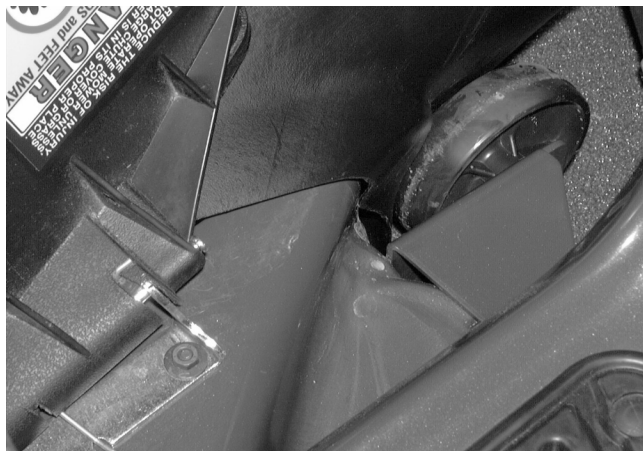

FIGURE 5.
7. Raise the deck to the highest cutting position and lift up the chute deflector. Place the top edge of the discharge chute over the opening on the deck. Push down on the discharge chute so that the front edge fits snugly around the deck opening. See figure 5.